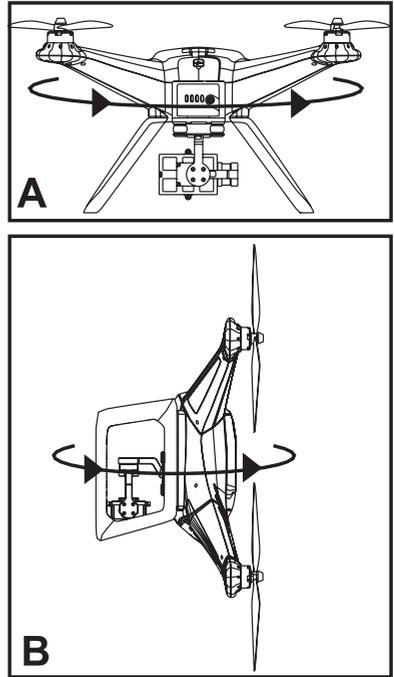

Figure 17
- Hold the quadcopter horizontally (see figure 17, illustration A) and turn it around its vertical axis until the status LEDs switch to green (at least 360°).
- Then hold the quadcopter with the front propellers vertically down and turn it 360° around the longitudinal axis (see figure 17, illustration B), until the status LEDs go out.